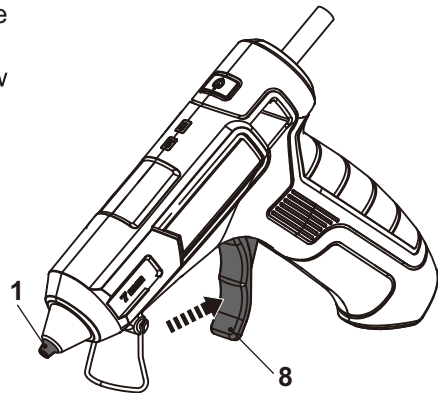

Fig. 7
1. Pull the trigger (8) to start the glue flowing (Fig. 7).
2. Release the trigger (8) to stop the flow of the glue.